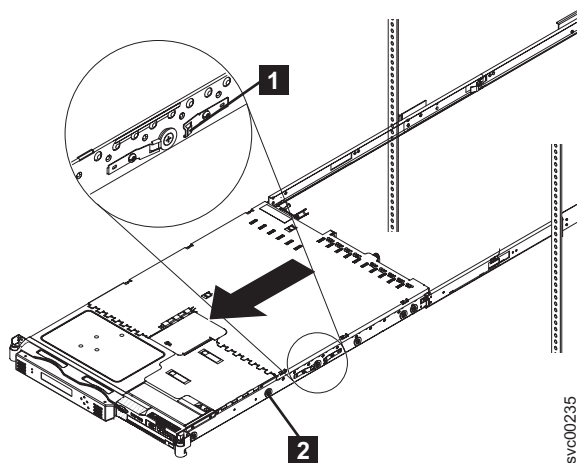

Figure 35. Removing the SAN Volume Controller 2145-8G4 from the rack
4. Position yourself to support the weight of the node when it is no longer held by the slides and then press the rear slide release latches (1 in Figure 35) on both sides of the SAN Volume Controller 2145-8G4 node.